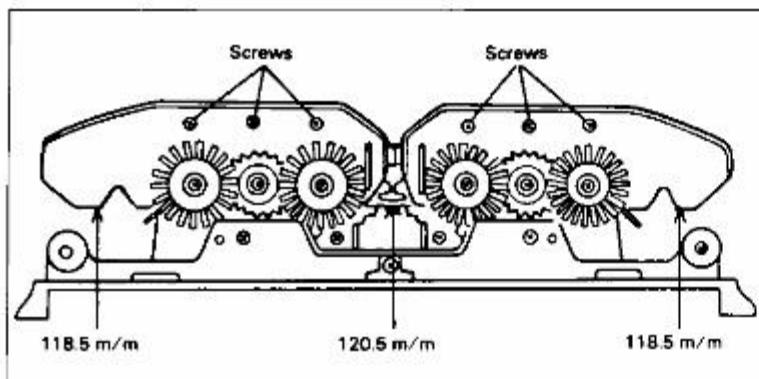

Fig. 5-2
* Position adjustment of the sinker plate. (Fig. 5-2).